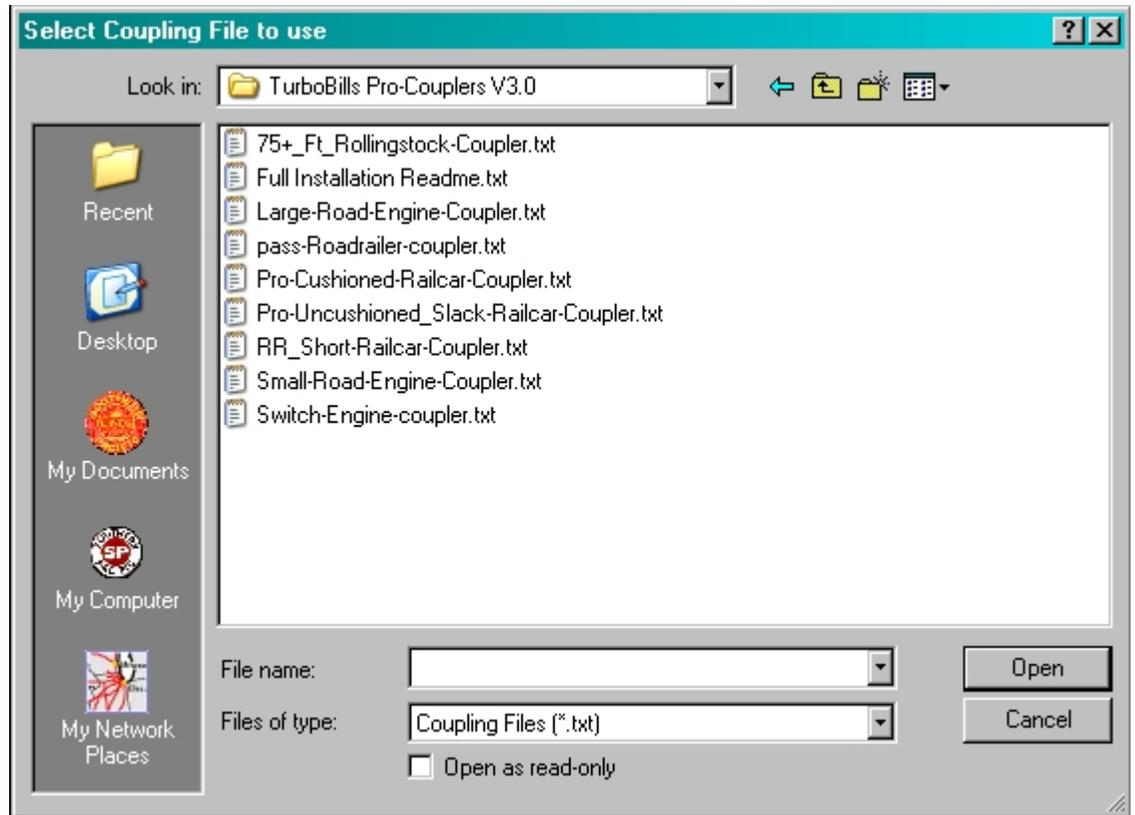
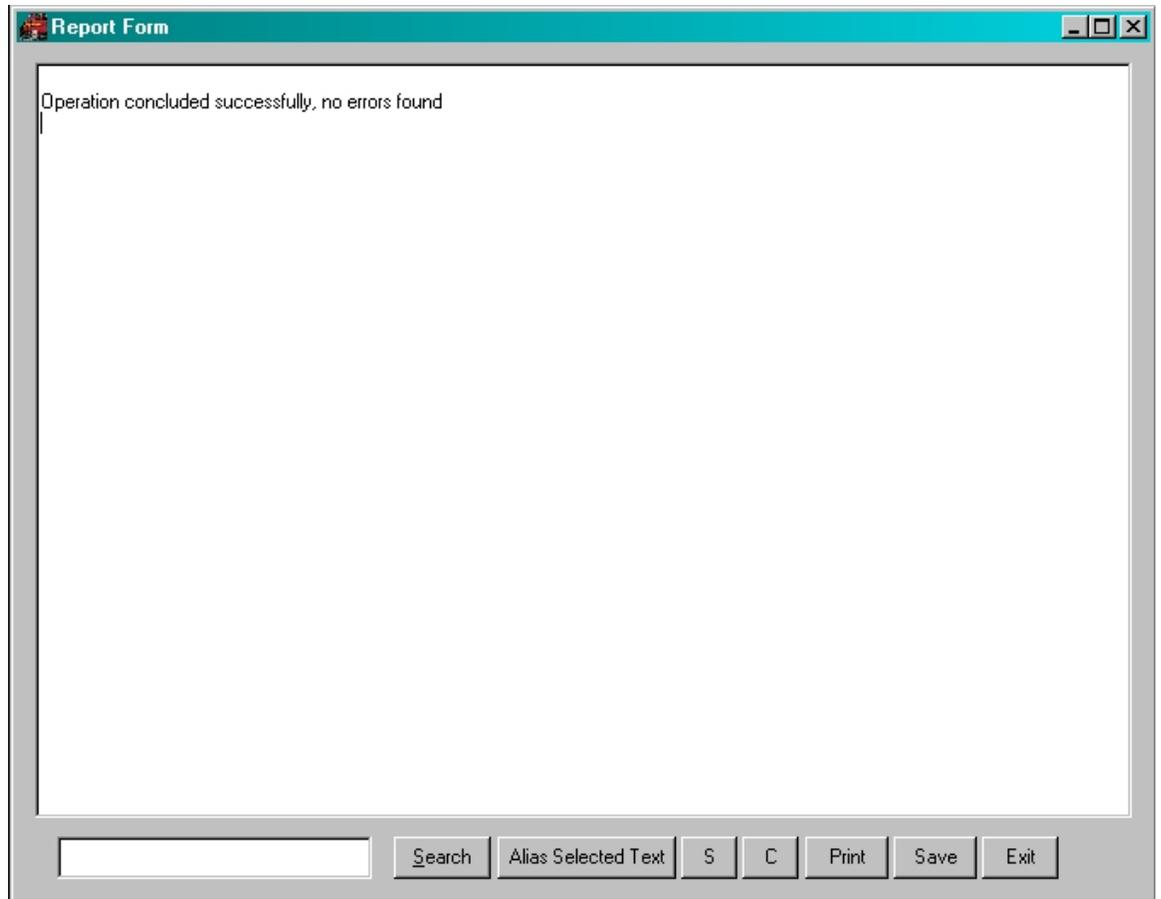

Figure 8
Figure 9
9. We will now double left-click on the "*Large-Road-Engine-Coupler.txt*" file as shown in Fig. 8. **Route_Riter** will now upgrade the items you have highlighted in the big window of the eng/wag file editor. **Route_Riter** will also automatically recalibrate your **.sd** file to dimensions that work best with the coupler chosen. It will also create a **.BAK** file so you can restore the original **.sd** file if you do not like the one **Route_Riter** created. The values will be recalculated to the nearest 1/100 value as MSTs does not like long decimal parameter values. The eng/wag editor will briefly display each item using the **shapeviewer** for a few seconds as it upgrades that item. This way you can go back and choose a different coupler if you not satisfied with the one you have chosen for that item after the process is completed for all items hi-lighted. When the process is completed you should see the window in Figure 9, below.